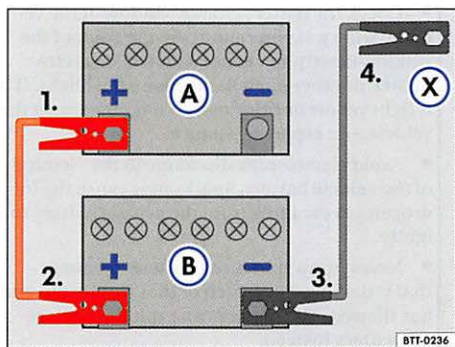

Fig. 201 Diagram for attaching the jumper cables:
- Attach one end of the **red** jumper cable to the **positive terminal** (+) of the dead battery: Battery (A) ⇒ ▲.
- Attach the other end of the **red** jumper cable to the **positive terminal** (+) of the good battery (booster battery): Battery (B).
- Attach one end of the **black** jumper cable to the **negative terminal** (-) of the booster battery: Battery (B) ⇒ fig. 201.
- Attach the other end of the **black** jumper cable (X) to a **bare metal part of the vehicle with the dead battery**. This part should be connected directly to the engine block. You may also attach the cable to the engine block itself. Attach the clamp to a point that is as far away as possible from the dead battery: Battery (A) ⇒ ▲.